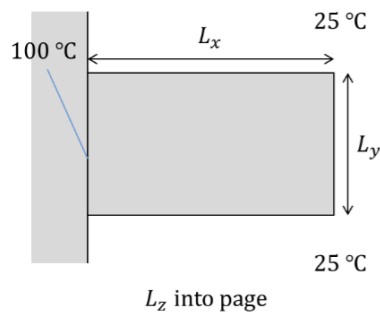

Figure 1: Long Rectangular Fin Attached to Heat Source
Goal: Solve Equation (1) from an initial time t_0 to a final time t_f for the temperature distribution across the 2D rectangular fin in Figure 1 (as a function of time) using a finite-difference method.